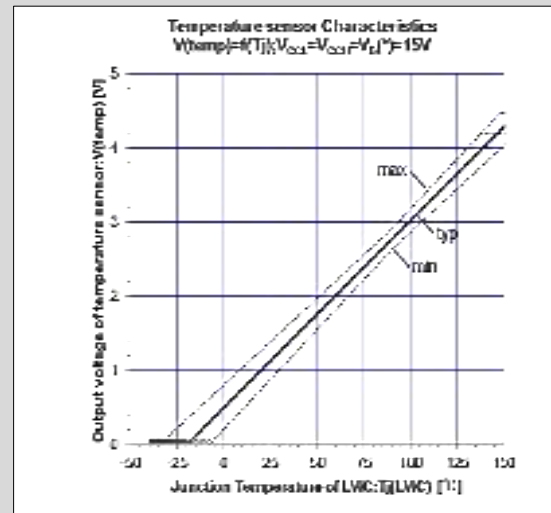

Fig.3-25 LVIC temperature vs. TEMP output voltage characteristics with 22kΩ pull-down resistor
- Fig. 3-25 shows the LVIC temperature versus TEMP output voltage characteristics with 22k Ω pull-down resistor $R_{pull-down}$.